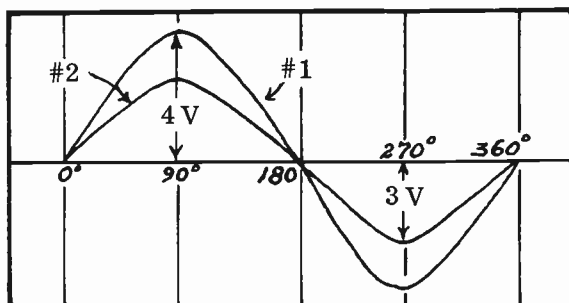
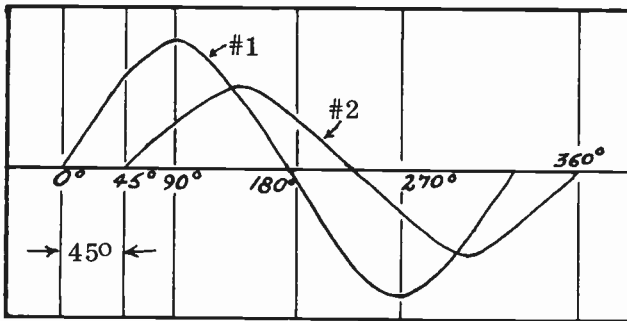
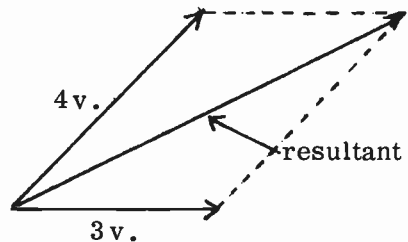

FIG. 4-5. TWO WAVES IN PHASE.
FIG. 4-6. TWO WAVES OUT-OF-PHASE.
FIG. 4-7B. ADDING VECTORS.
**THE MEANING OF PHASE RELATIONSHIP.** If two alternating current generators are connected in series across a load, and if their armatures are started rotating together from exactly the same point, two voltages will be produced. Let us assume that the peak output of generator #1 is 4 volts and the peak output of generator #2 is 3 volts. Since both generators start from the same position, at the same time and at the same speed, they will both produce their maximum and minimum voltages at the same instant. This is illustrated in Fig. 4-5. Because the maximums and minimums of the two waves occur at the same time, we say that the two waves are **IN PHASE** with each other. Being in phase, the voltages become additive. Therefore, the resultant peak will be neither 4 volts nor 3 volts, but 7 volts, the combination of the two.
OUT OF PHASE with each other, as shown in Fig. 4-6. It should be observed that the same voltages are being considered here as in Fig. 4-5, except that the 3 volt wave LAGS  $45^\circ$  behind the 4 volt wave. These waves are said to be out of phase by  $45^\circ$ . If the 3 volt wave had started  $90^\circ$  later, the 3 volt wave would lag the 4 volt wave by  $90^\circ$ . The angle by which one wave leads or lags another wave is known as the PHASE ANGLE.
The voltages of Fig. 4-6 are represented in vector form in Fig. 4-7. Note that the angle between the two vectors is  $45^\circ$ , the difference in phase between the two voltages. Also, note that the lengths of the lines corresponds to the voltages of the two waves. In order to add the two waves together, we use the "PARALLELOGRAM LAW". At the end of the 3 V. vector we draw a line parallel to the 4 V. vector. At the end of the 4 V. vector we draw a line parallel to the 3 V. vector. A parallelogram is formed. See Fig. 4-7B. The diagonal drawn from the junction of the two original vectors is called the resultant and it represents the sum of the two voltages.